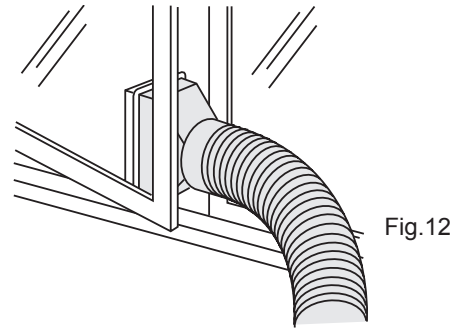

Fig.12
- (3) Lead the exhaust hose outdoors. (As shown in Fig.12)